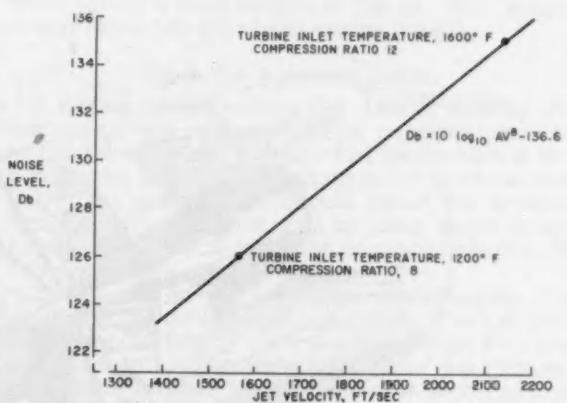

Fig. 2—Effect of jet velocity on estimated noise levels at 200 ft from 4-engine airplane at take-off.
**Noise**—The principal source of noise from jet engines appears to be the jet itself. The noise is created outside of the engine by the mixing process between the high-velocity jet and the surrounding atmosphere. Experiment and theory indicate that the noise power generated varies as the eighth power of the jet velocity. Great reductions in noise can be achieved, therefore, by reducing jet velocity. Our low-temperature engine operating at 1200 F and a compressor ratio of 8 produces a jet velocity of 1557 fps as compared to 2134 fps for the high-pressure, high-temperature engine. Fig. 2 shows the relative noise levels which might be produced. The noise level is plotted as a function of the jet velocity in feet per second. The noise levels are given at 200 ft from a 4-engine jet plane producing a total thrust at take-off of 60,000 lb.
Fig. 1—Fuel system includes, among other components, a fuel regulator and a temperature datum valve. The fuel regulator meters fuel on a volume basis in accordance with the demand curve typified in Fig. 2. Regulator is designed to supply a little more fuel than is actually needed.
The "fuel regulator" shown in Fig. 1 (in the lower half, just to the left of the center) regulates fuel volume flow on a predetermined schedule, like that shown in Fig. 2.
Fig. 2—Typical fuel control schedule for turboprop. Fuel regulator meters fuel to engine according to this schedule. (Momentary high flow between 2000 and 3000 rpm is to insure good spray pattern at light-off.)
This is only a close approximation, but represents a useful expression to evaluate trends as shown in Fig. 2 (from footnote 1). In this expression  $\eta_0$  is the overall efficiency.  $\eta_t$  is the turbine efficiency and  $\eta_c$  the compressor efficiency.  $R$  represents the ratio of positive to negative work in the ideal cycle or the ratio of  $T_{max}$  to the ideal adiabatic compression temperature. The expression neglects a number of factors such as, the effect of variable specific heat, the losses in ducting, the additional work derived from the mass flow of the fuel passing through the turbine in the form of combustion products, and the proportion of useful work ultimately regained in the turbine from the extra heat derived from inefficient compression. The expression is based on the assumption of an ideal or reversible Joule cycle. When considering an actual process the picture changes considerably.